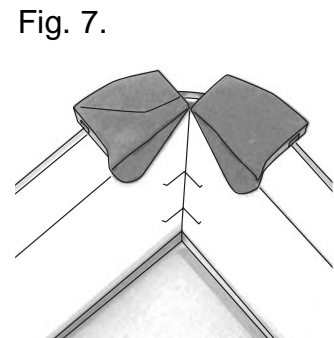

Fig. 7.
4. For wide moulding V-Nail in two positions, i.e. front and back. Insert the front V-Nail first (i.e. near the rebate), then the second close to the centre of the moulding. Do not place a V-Nail in the back 1/3 of the joint. More "holding power" is obtained from V-Nails placed near the rebate. Usually only two V-Nails are necessary. See Fig. 7.